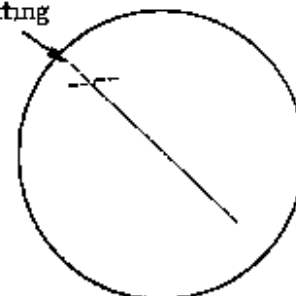

Figure 22
- ( ) Now return both the VERTICAL and HORIZONTAL gain controls to the CCW position and readjust the centering controls (if necessary) to position the beam in the center of the screen. Set the FREQUENCY switch to the INTERNAL SYNC 500-5000 position and the fine FREQUENCY control to the center of its range. Set the VERTICAL Attenuator switch to the AC X1 position, and the HORIZONTAL Attenuator switch to the AC X10 position. Turn the unit OFF and connect a lead between the red vertical input binding post and the center lug of the Sweep Positioning control. Turn the unit ON, and after warmup, adjust the VERTICAL and HORIZONTAL gain controls until a trace similar to Figure 22 appears. Adjust the horizontal attenuator trimmer capacitor nearest the front panel to provide the straightest line.
- ( ) Now set the HORIZONTAL attenuator switch to the AC X100 position and readjust the gain controls to provide a trace similar to Figure 22, as before. This time adjust the horizontal attenuator trimmer farthest from the front panel to provide the straightest line.
- ( ) Return the gain controls to the CCW position and set the HORIZONTAL attenuator switch to the AC X1 position. Set the VERTICAL attenuator switch to the AC X10 position. Again, adjust the gain controls until a trace similar to Figure 22 appears. Adjust the vertical attenuator trimmer capacitor nearest the front panel to provide the straightest line.
- ( ) Now set the VERTICAL attenuator switch to the AC X100 position and readjust the gain controls to provide a trace similar to Figure 22. This time adjust the vertical attenuator trimmer farthest from the front panel. Now remove the lead.